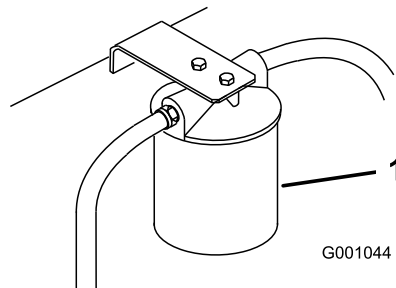

Figure 76
3. Place drain pan under filter, remove the old filter, and wipe the filter adapter gasket surface clean (Figure 76).